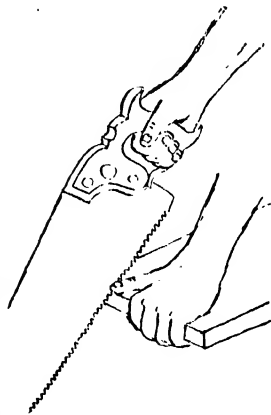

Fig. 523.—
**Sawing.**—A common fault with beginners is that they do not take sufficient care at the commencement of the cut or kerf. The first part of a cut is most important, because if that is not made square through the wood it is afterwards a very difficult matter to get the cut square without twisting the saw, and perhaps spoiling it. Begin sawing by placing the left thumb (see Fig. 523) or forefinger to the line, so as to guide the saw at the commencement of the kerf, then take a few gentle and careful strokes, making sure that the saw enters the wood at right angles. Move the left hand to a more secure position, and then use nearly the whole length of the saw, taking care not to draw it right out of the kerf, or it may be damaged by striking against the work at the return stroke. See that each stroke is regular. Allow a slight pause between each stroke to enable the worker to retain energy for each downward (working) stroke. Short, jerky and quick strokes must be avoided, for they rapidly produce fatigue, and result in bad work. Do not force the saw: that is, do not press too hard at each downward stroke, as this fault not only